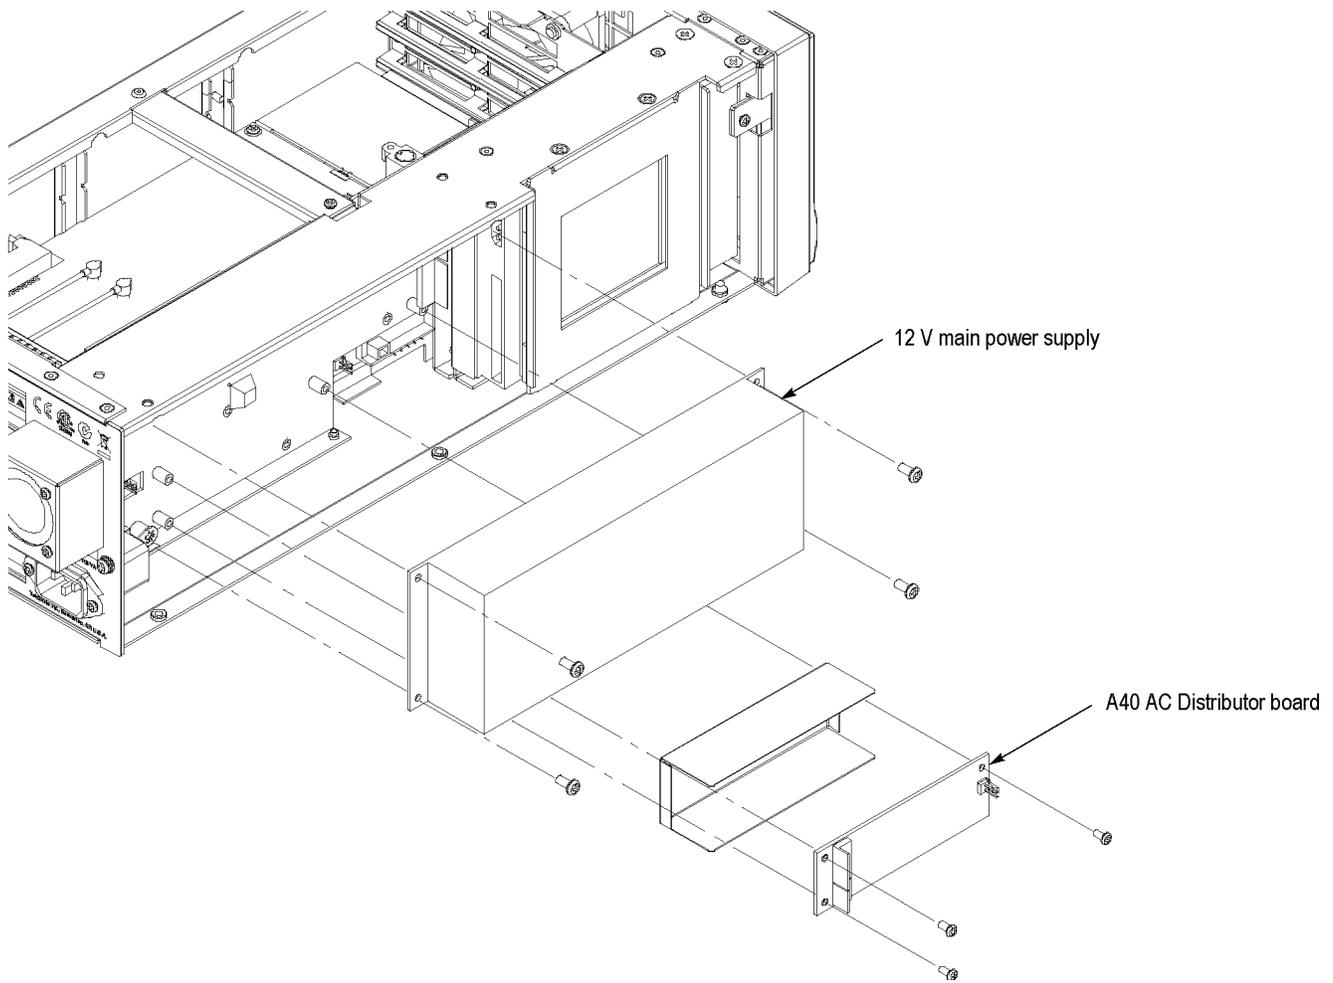

Figure 3-15: 12 V main power supply and A40 AC Distributor board removal
3. Remove the 12 V main power supply: (See Figure 3-15.)
3. Remove the A40 AC Distributor board: (See Figure 3-15.)